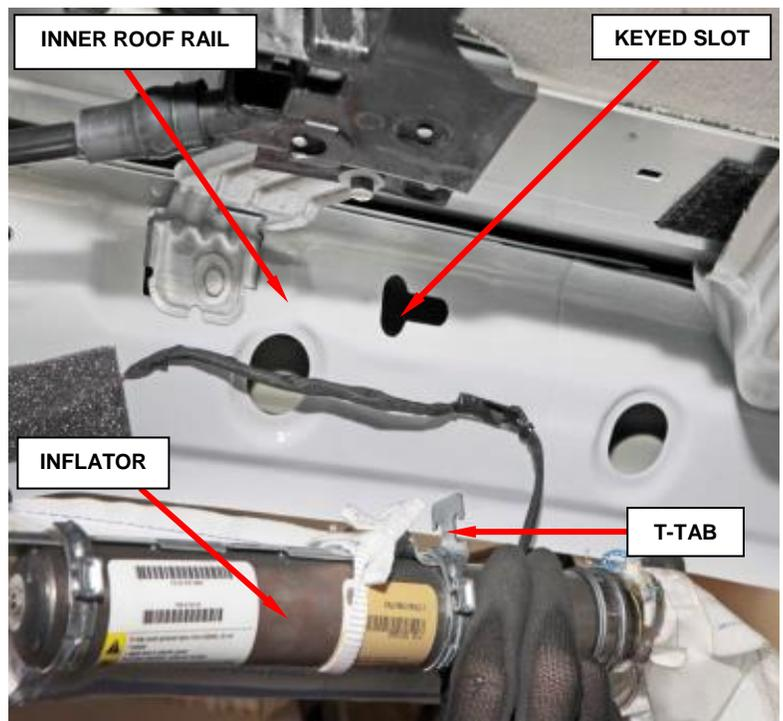

Figure 31 – Inflator T-Tab
6. Slide the inflator rearward far enough to disengage the T-tab at the front of the inflator bracket from the keyed slot in the inner roof rail over the rear door opening (Figure 31).
10. Insert the T-tab at the front of the inflator bracket into the keyed slot in the inner roof rail over the rear door opening and slide the inflator forward to engage it (Figure 31).